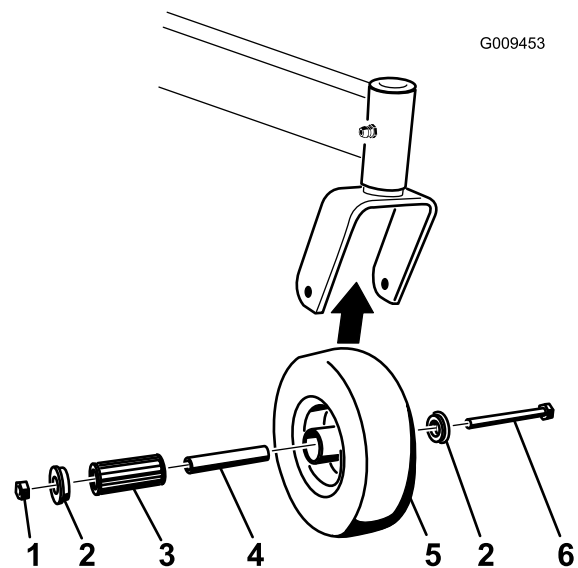

Figure 61
1. Remove the locknut and wheel bolt holding the caster wheel to the caster fork (Figure 61).
2. Remove one bushing, then pull the spanner bushing and roller bearing out of the wheel hub (Figure 61).
3. Remove the other bushing from the wheel hub, and clean any grease and dirt from the wheel hub (Figure 61).
Note: Replace any defective or worn parts (Figure 61).
5. Place one bushing into the wheel hub (Figure 61).
6. Grease the roller bearing and spanner bushing, and slide them into the wheel hub (Figure 61).
7. Place the second bushing into the wheel hub (Figure 61).
8. Install the caster wheel into the caster fork and secure it with the wheel bolt and locknut (Figure 61).
9. Tighten the locknut until the spanner bushing bottoms against the inside of the caster forks (Figure 61).